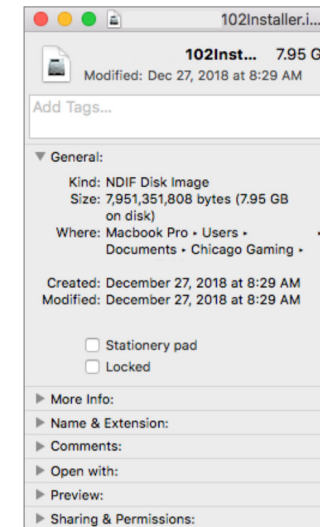

Figure 4-2. Get Info for update image file.
- 4) Launch Extractor and select the update file you downloaded; unzip the file. When it's done, you'll see the Pulp Fiction **.img** file on your desktop. Figure 4-2 shows what Get Info looks like for the unzipped image file.